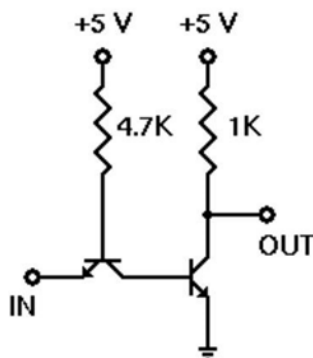
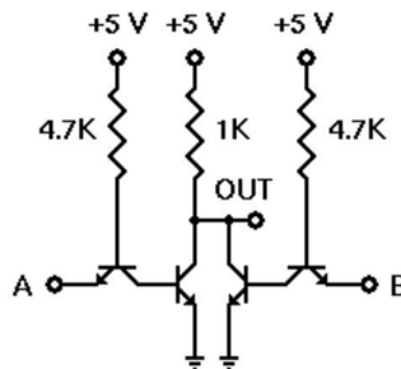

Fig. 6: TTL Inverter
Fig. 7: 2-input TTL NOR gate
- (1) Set up the circuit for the RTL inverter as shown in Fig. 6.
- (2) For each input combination, find the output and place them in a Truth Table. The Truth Table should have two sets of outputs- one ideal and one experimental.
- (3) Repeat steps 1 and 2 for the circuit set-up of Figs. 7 and 8.